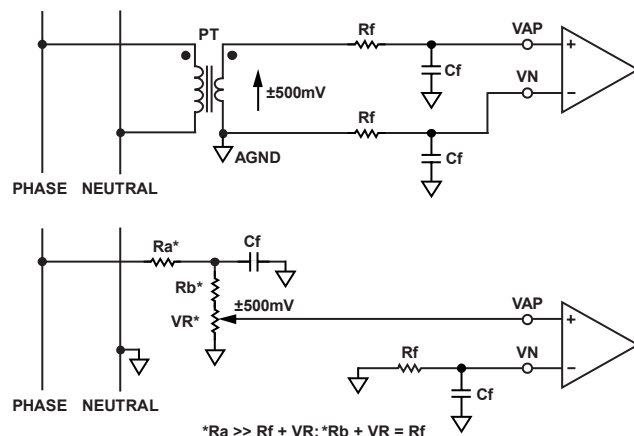

Figure 17. Typical Connections for Voltage Channels
Figure 17 shows two typical connections for the voltage channel. The first option uses a potential transformer (PT) to provide complete isolation from the main voltage. In the second option, the ADE7762 is biased around the neutral wire, and a resistor divider is used to provide a voltage signal proportional to the line voltage. Adjusting the ratio of Ra, Rb, and VR is a convenient way of carrying out a gain calibration on the meter. VR can be implemented using either a potentiometer or a binary weighted series of resistors. Either configuration works, however, the potentiometer is subject to noise over time. Two fixed value resistors can be used in place of VR to minimize the noise.